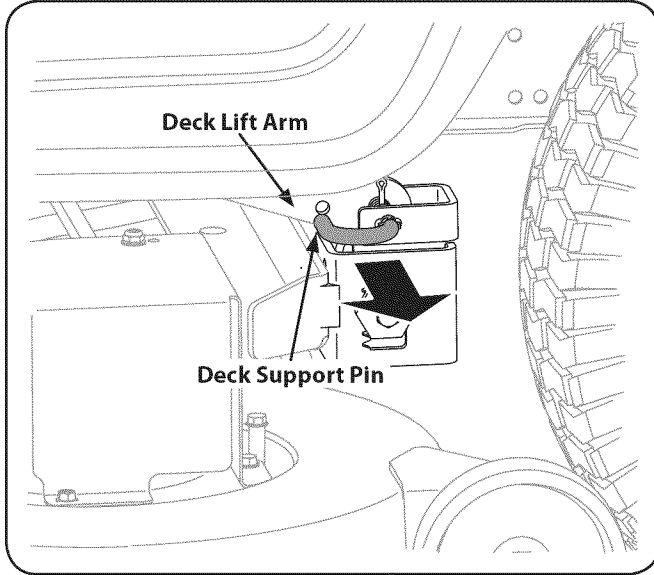

Figure 7-3
- On 46" Decks: Looking at the cutting deck from the left side of the tractor, locate the deck support pin on the rear left side of the deck. Pull the deck support pin outward to release the deck from the deck lift arm. See Fig. 7-3.